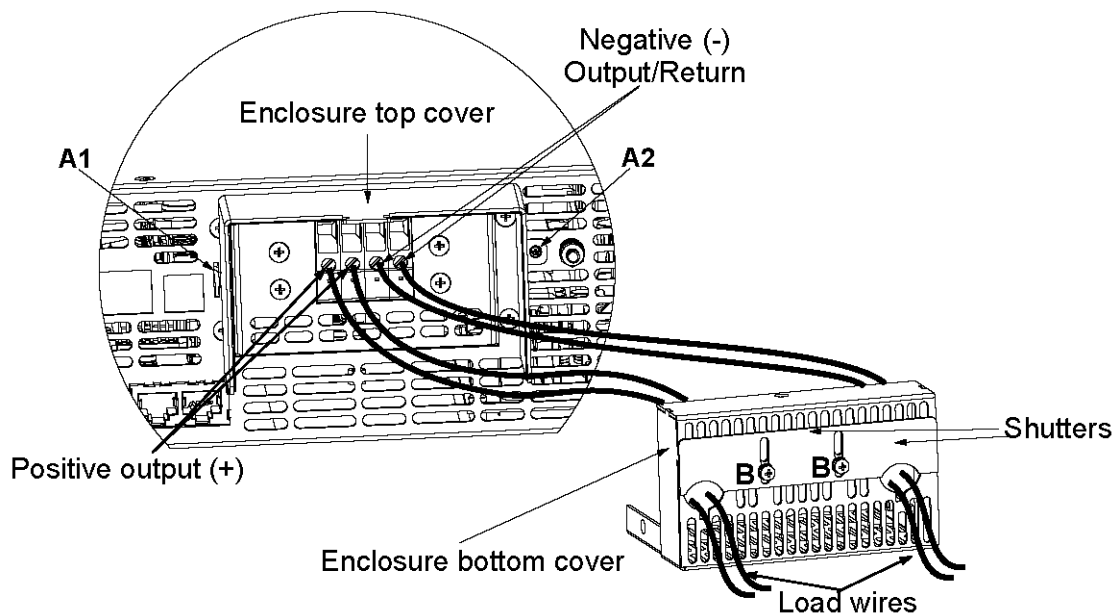

Fig. 3-9: Load Wires Connection to the Output Connector
- d) Insert stripped wires into enclosure bottom cover opening and then to the terminals, tighten the terminals screws securely (see fig. 3-9)
- e) Assemble the enclosure top cover to the chassis as shown in Fig. 3-9, using clamp "A1" and screw "A2", tighten screw "A2" (tightening torque: 4.8-5.3 Lb-inch).